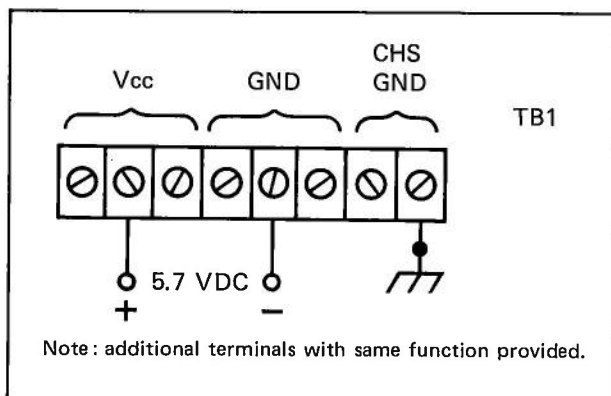

Figure 9 — Distribution Panel, TB1
Step 15 — Energize the system and measure the voltage between terminals 1 (Vcc) and 4 (GND) on TB1 of the Distribution Panel. (See Figure 9.) Terminal 1 should be positive with respect to terminal 4.